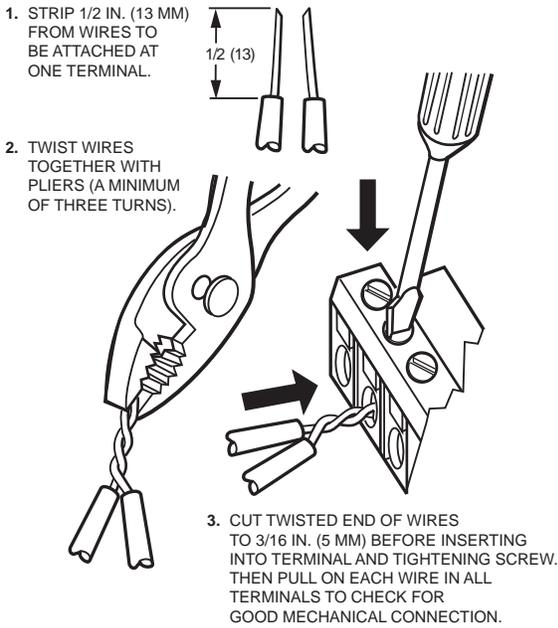

Fig. 4. Attaching two or more wires at terminal blocks.
3. If two or more wires are being inserted into one terminal location, twist the wires together a minimum of three turns before inserting them to ensure proper electrical contact. See Fig. 4 on page 5.